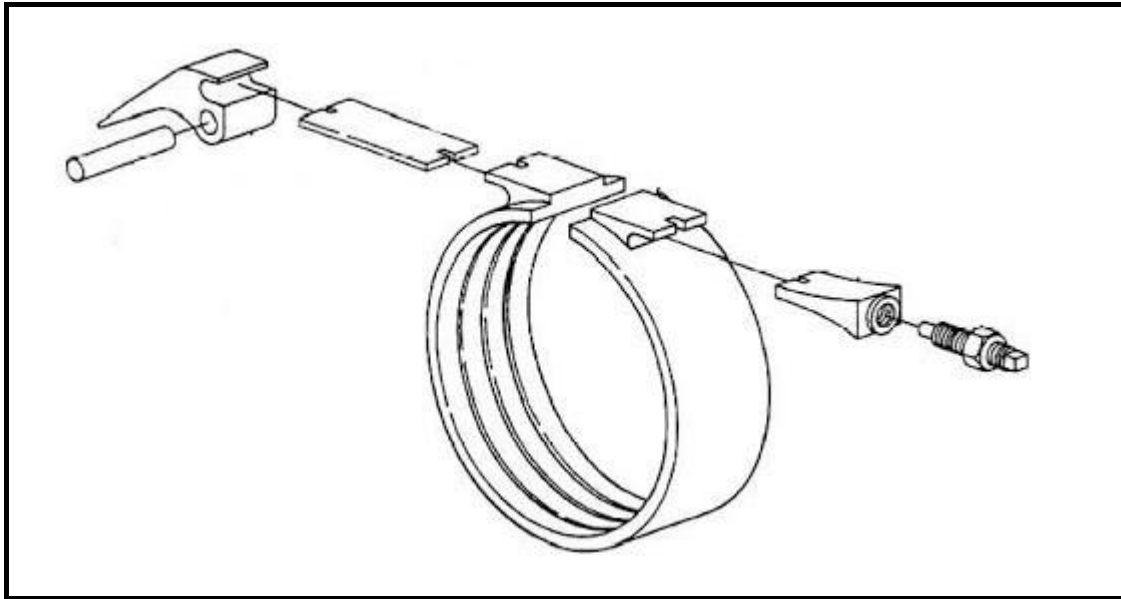

FIGURE 4.4
- D Cylinder leakage tester (1)
4.4 Identify the equipment shown in FIGURE 4.4 below.